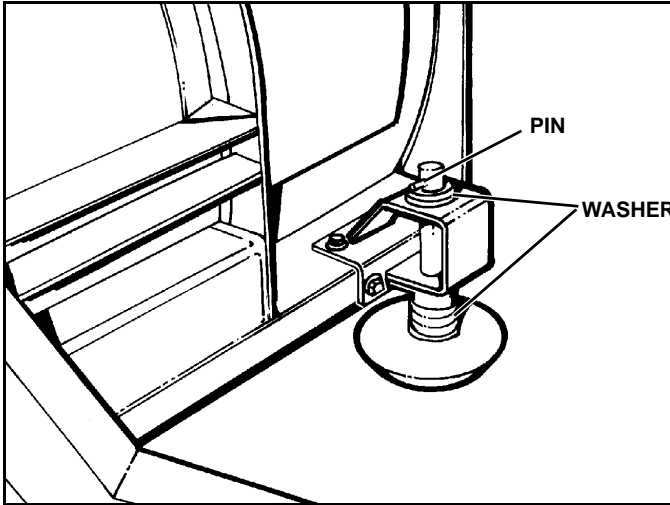

Figure 3-8
5. Adjust shoe assemblies by removing Shoe Mounting Pin and adding or subtracting washers on the top or bottom of the shoe mounting bracket. (See Figure 3-8)